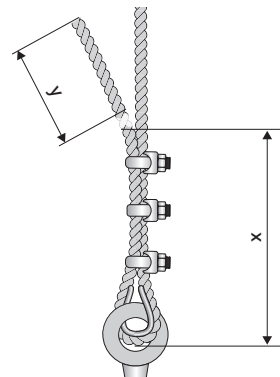

Fig. 30b: Drawing of the end of the rope for type 36, 37
3. At the rope electrode type 30, 33, 34 or 35 (with weight), it is necessary to loosen three fastening screws on the ballast and to pull out the end of the cable, see fig. 30b. Make sure that the cable length is correct after shortening – the cable is suspended in the ballast up to a distance of approximately 60 mm. Ideally, shorten the cable using diagonal cutting pliers. Be careful to prevent the end of the cable from fraying.